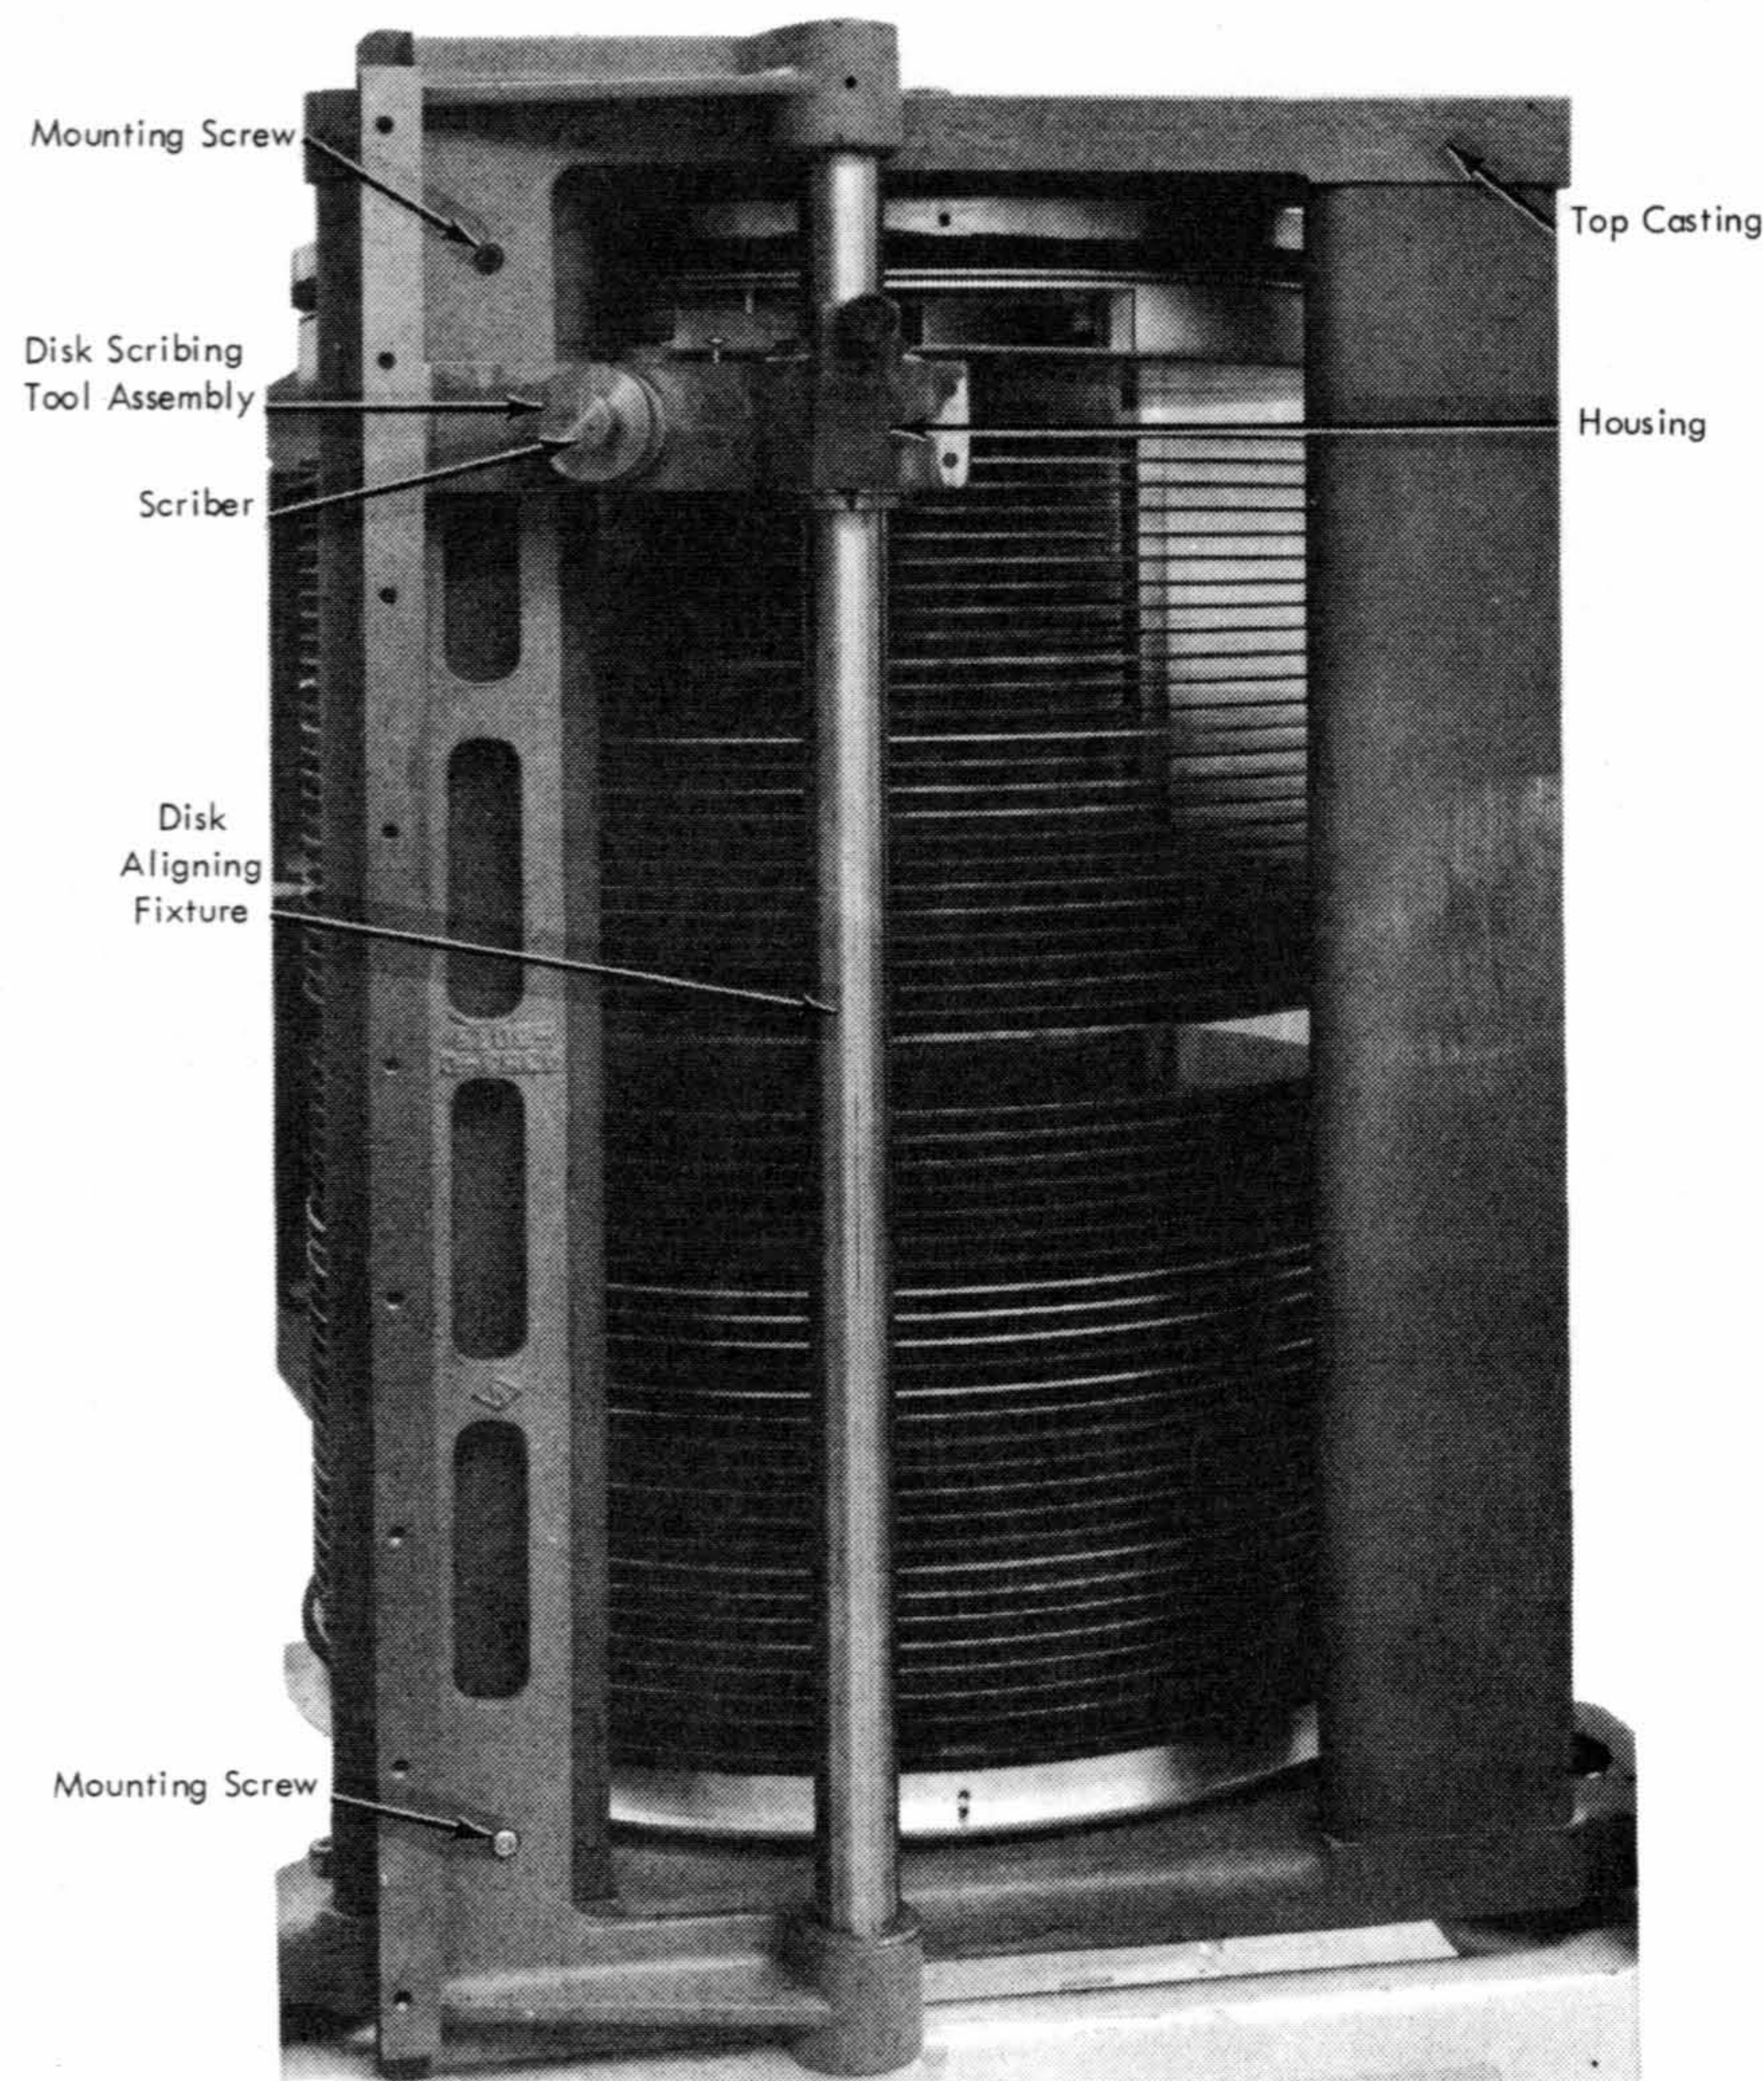

Figure 2-6. Disk Scribing and Aligning Fixture
7. Mount the disk scribing and aligning fixture assembly (Figure 2-6) to rear support casting and tighten the two screws to 140 ± 10 inch lb torque.
10. Insert the disk scribing tool assembly into housing (Figure 2-6). Rotate scriber until